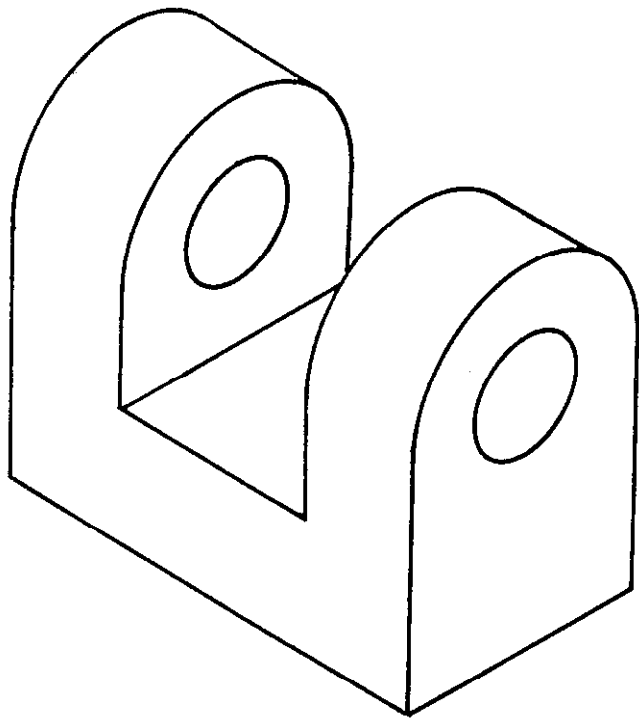

FIG. 8.1 FÍOR 8.1
- (i) With the aid of a large freehand sketch show Fig 8.1 as a wire frame representation.